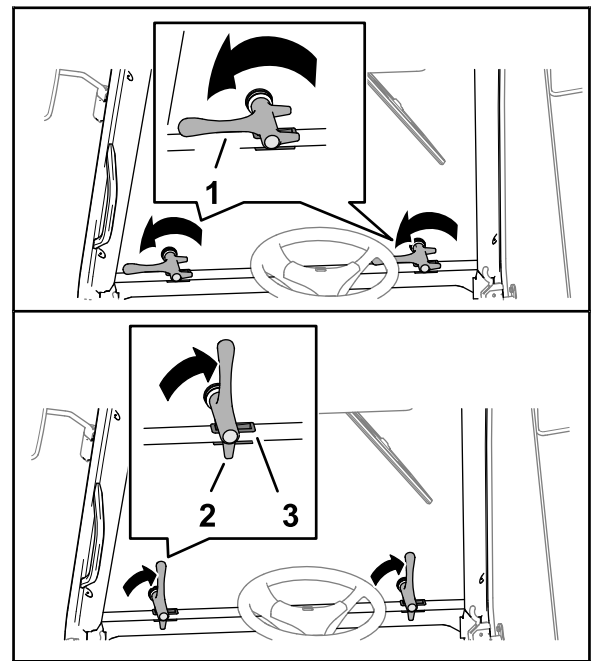

Figure 14
- To open the windscreen, rotate the latch handles counterclockwise (horizontal), and push the handle forward (Figure 14).
- To close the windscreen, rotate that the latch handles are horizontal, pull the latch handles until the windscreen is seated, and rotate the handles clockwise until they are vertical (Figure 14).